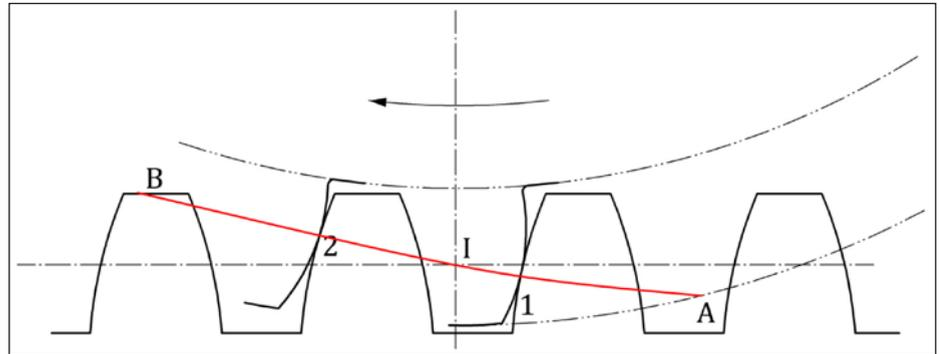

Figure 6 Active path of contact AB.
5. Then it is important to determine the limits of the active path of contact. In principle it is limited by the outside active cylinder of the worm and the external circle of the external surface of the worm wheel (Fig. 6).